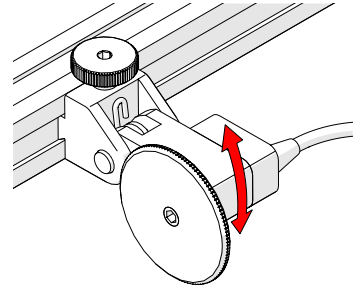

Fig. 38 - Place on scan surface
3. Spring tension maintains encoder contact with the scan surface (Fig. 38).